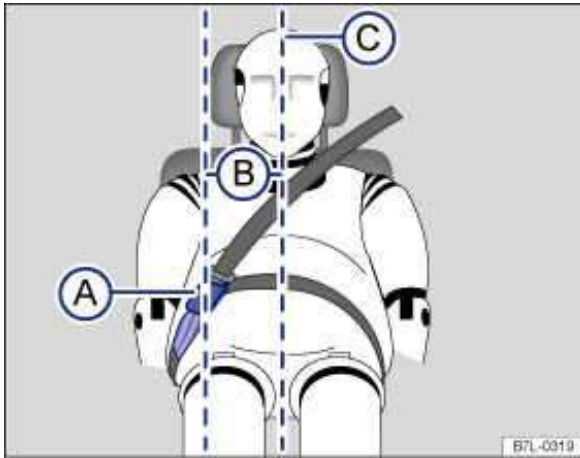

Fig. 58 Positioning of the safety belt extender.
Key to fig. 58:
- **Never use a safety belt extender if the distance (B) between the front edge of the safety belt extender buckle (A) and the centerline of the person using the safety belt extender ⇒ fig. 58 \(C\) is less than 6 inches (15 cm).**